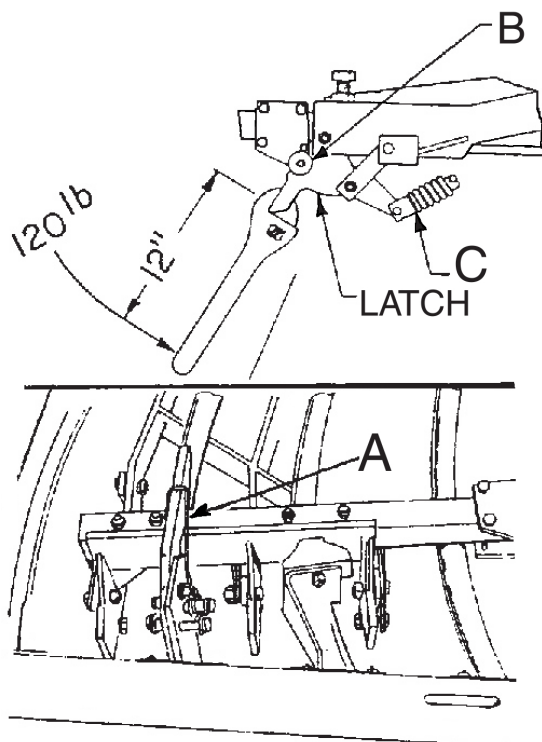

Figure 122. Feed Fork Catch
The feed fork will automatically release from the feed arm under extreme conditions of overfeeding the pickup. When this happens, the feed fork locks into the feed fork catch (A) (see Figure 122).